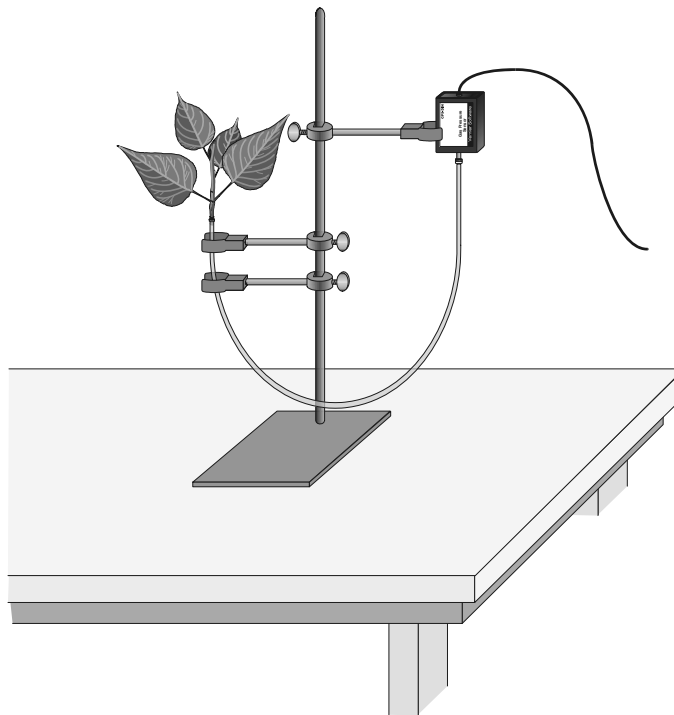

Figure 1
1. Position the ring stand, utility clamps, and Gas Pressure Sensor as shown in Figure 1.
7. Secure the plant in an upright position with the utility clamps as shown in Figure 1. It should be positioned so that the cut stem is about 8 cm below the water level at the other end of the tubing, as shown in Figure 1.